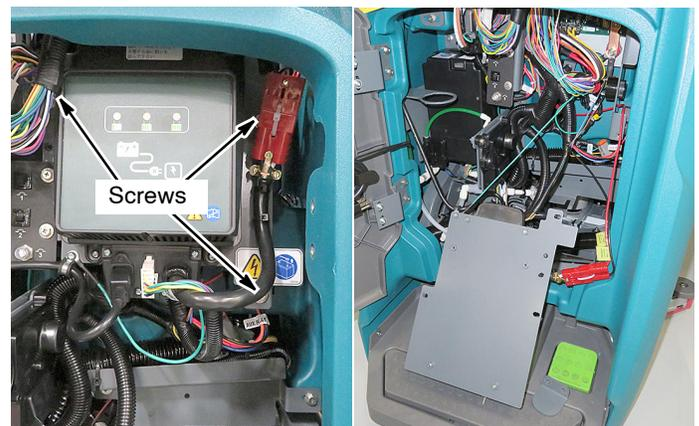

Fig. 3
5. Remove the three screws that mount the battery charger panel to the machine and carefully lower the battery charger as shown (Figure 3).
- Disconnect the wire connectors, bus-bar and red cable from circuit board (Figure 3). Take note of connections before disconnecting.